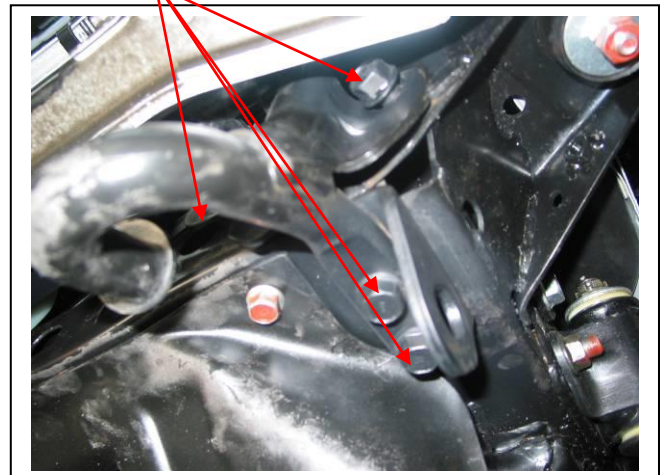

Figure 2 – Passenger side shown
3. Remove passenger side tow hook / tie down bracket. Four 17mm head bolts. **See figure 2.**